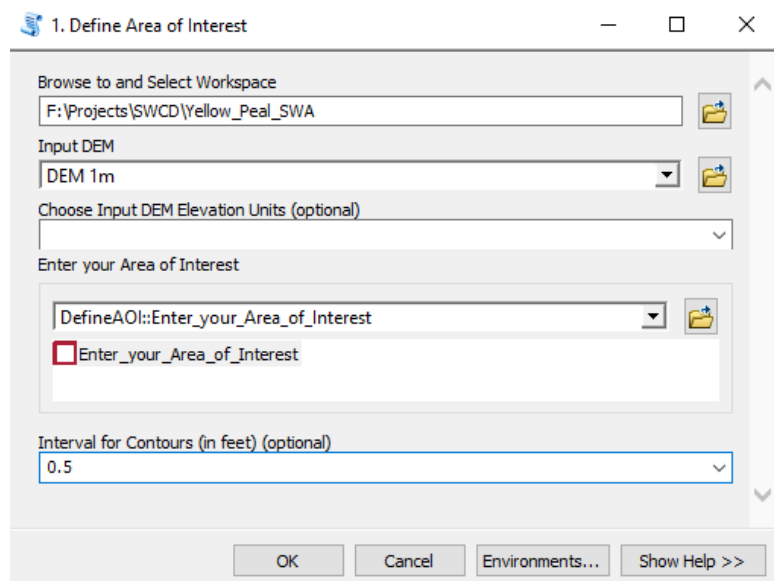

Figure 44. Define Area of Interest
- Browse to and Select Workspace: Click the folder icon and select a place to save the shapefiles that will be created (Figure 44).